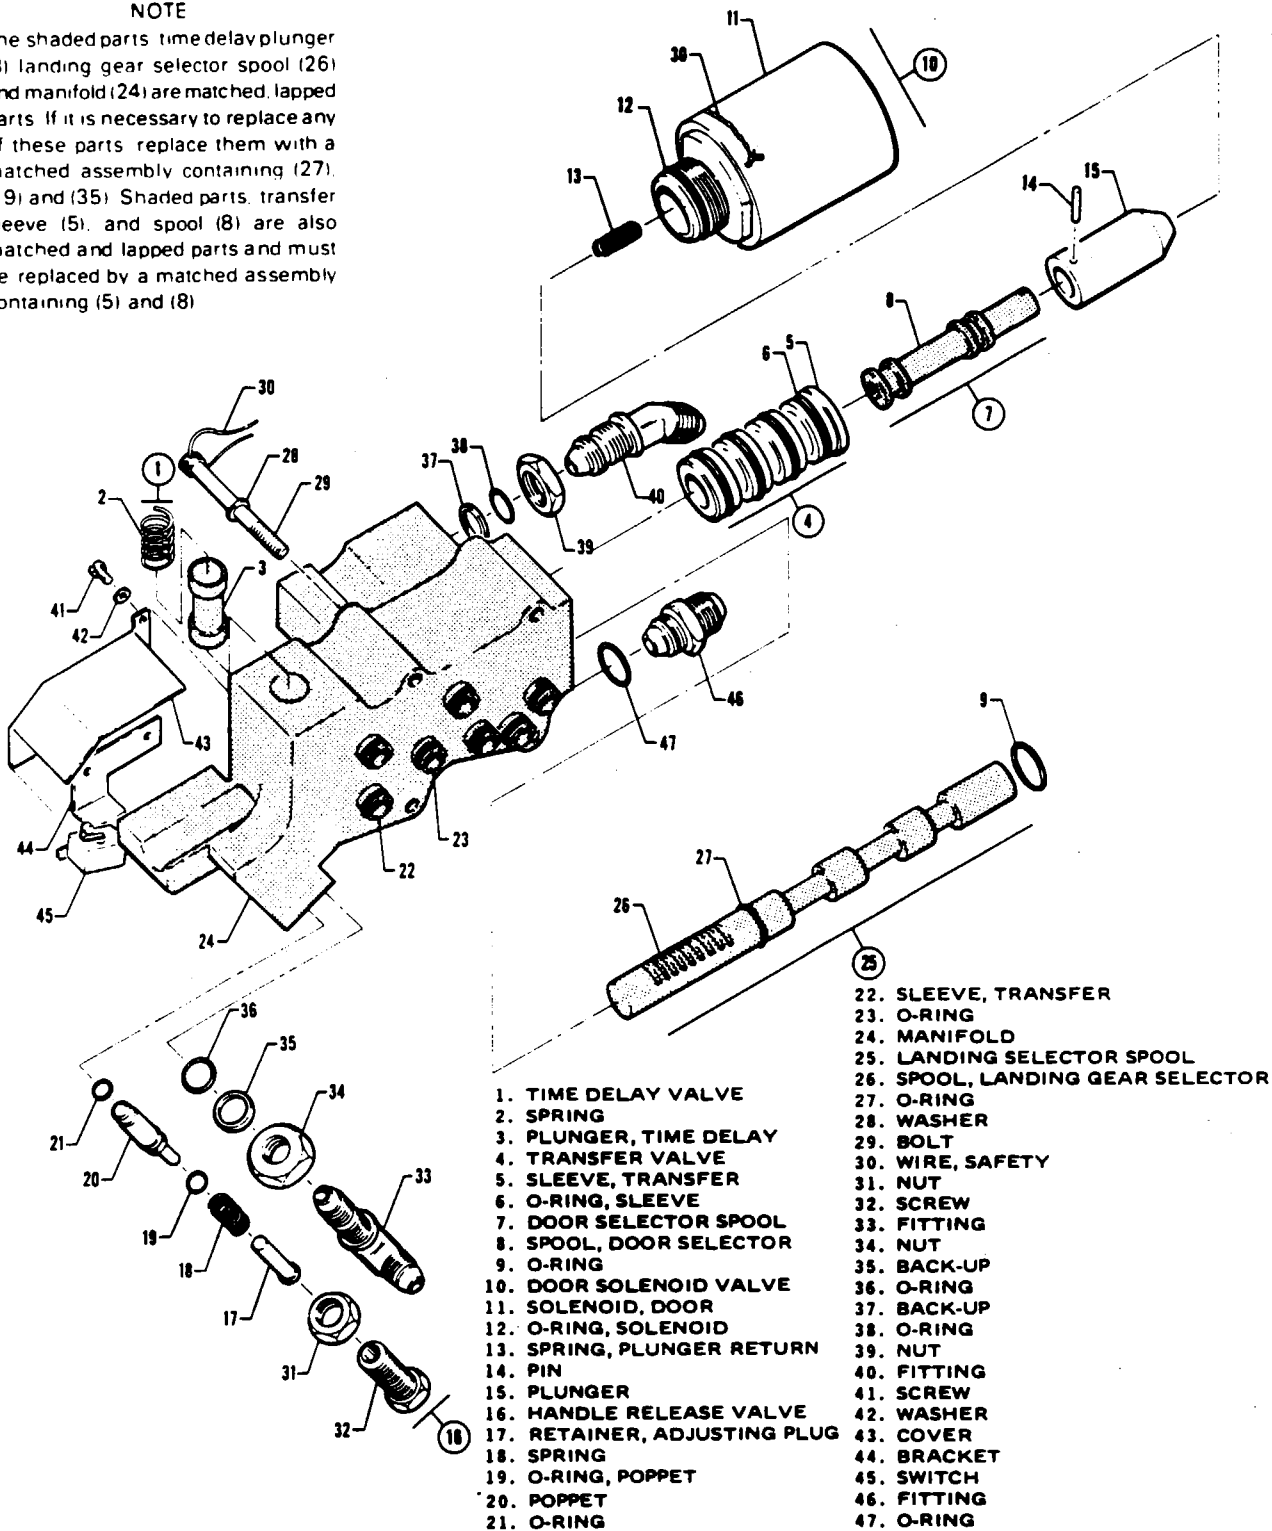

Figure 6-7. Power Pack Manifold (Ozone)
6-23. DISASSEMBLY OF MANIFOLD. (Refer to Figure 6-7.)
6-41. ASSEMBLY OF MANIFOLD. (Refer to Figure 6-7.)
6-43. INSTALLATION OF MANIFOLD. (Refer to Figure 6-7.)
- e. Install the four manifold attaching bolts (29) and washers (28). Torque the bolts to 35 inch-pounds and safety. Do not over-torque the bolts, as this will cause binding in the movement of the landing gear handle.
- f. Lubricate and install the two-rings on the time-delay valve retainer. (Refer to Figure 6-7.)